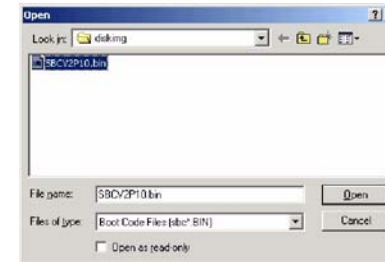

Figure 2 Selecting SBC***.bin Boot Code File
- b. Select Boot Code Software file SBC*.bin (Figure 2).